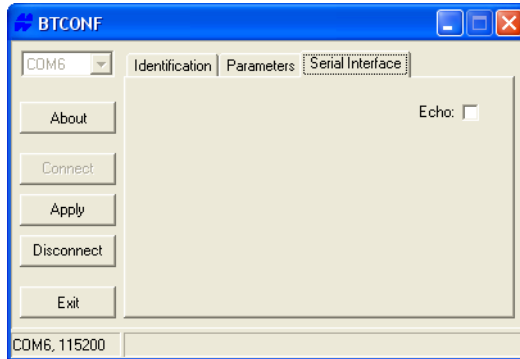

Figure 2-17. BTCONF Serial Interface Tab
9. Click the **Serial Interface** tab (Figure 2-17). Enable Echo to display Bluetooth module replies and corresponding commands on the computer terminal. Click **Apply**.